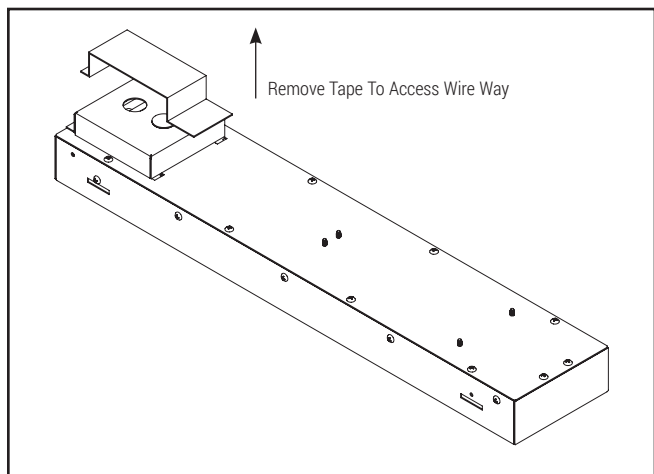

Figure 2.
5. Remove Tape to access Wire Way. (Figure 2.)